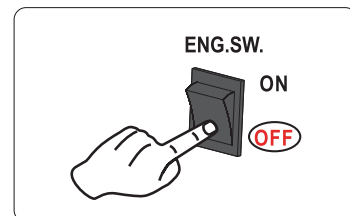

Fig 17
1. Turn the engine START/ON/OFF switch to the "OFF" position. (See fig 17)